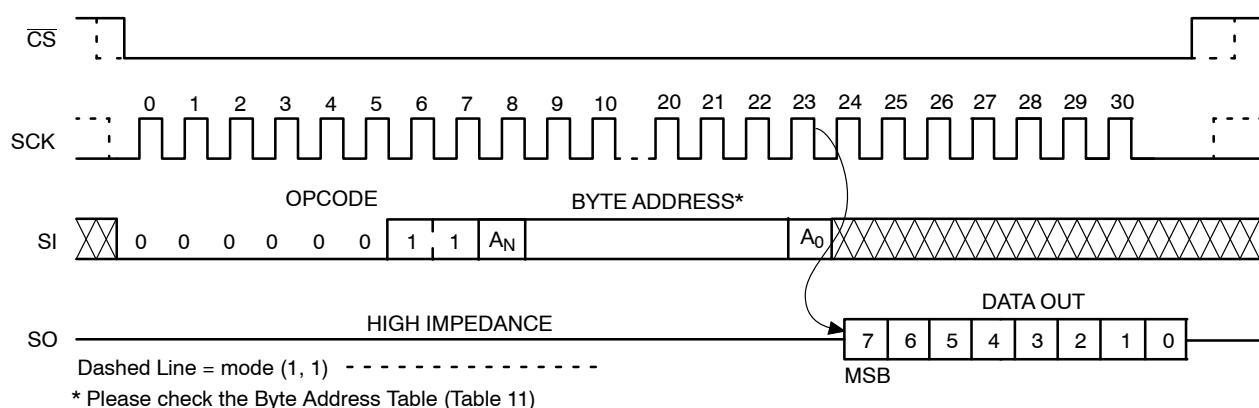

Figure 9. READ Timing
After receiving the last address bit, the CAV25128 will respond by shifting out data on the SO pin (as shown in Figure 9). Sequentially stored data can be read out by simply continuing to run the clock. The internal address pointer is automatically incremented to the next higher address as data is shifted out. After reaching the highest memory address, the address counter “rolls over” to the lowest memory address, and the read cycle can be continued indefinitely. The read operation is terminated by taking CS high.
Reading the additional 64-byte Identification Page (IP) is achieved using the same Read command sequence as used for Read from main memory array (Figure 9). **The IPL bit from the Status Register must be set (IPL = 1) before attempting to read from the IP.** The [A5:A0] are the address significant bits that point to the data byte shifted out on the SO pin. If the CS continues to be held low, the internal